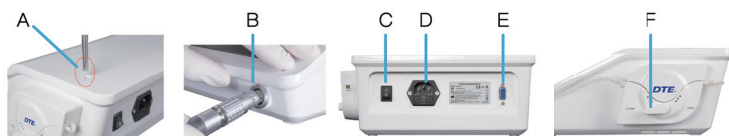

Fig.6
heat. Install it such a way that there is an adequate circulation of air around it. Leave sufficient free space around it, in particular with reference to the fan on the rear. (Fig.6)
6.3.2 Insert the rod for supporting the bag into the holes provided for it (Fig.6—Ref.A);
6.3.3 Connect the footswitch to the casting of the device by inserting the plug into the footswitch socket (Fig.6—Ref.E);
6.3.4 Plug the power cable into the connector on the casting of the device (Fig.6—Ref.D) and then into the power outlet;
6.3.5 Insert the tube of Surgery-X(LED) cord to the cord connector on the device (Fig.6—Ref.B);
6.3.9 Press the button “on/off” (Fig.6—Ref.C), then can use the device.
7.5.4 Make sure that the Surgery-X(LED) handpiece is correctly connected to the handpiece connector (Fig.6-Ref.B);